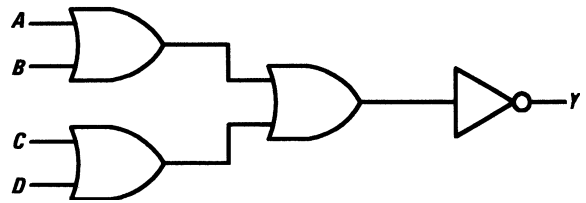

Figure A2.24
47. What single logic gate can be used to replace the logic circuit shown in Fig. A2.24? [Page 165]